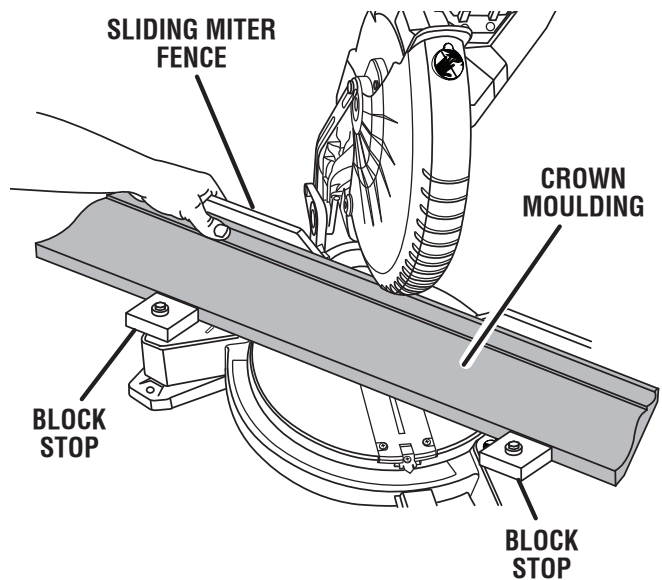

Fig. 36
- Hold the molding as shown in figure 36 with your hand on miter fence and molding.